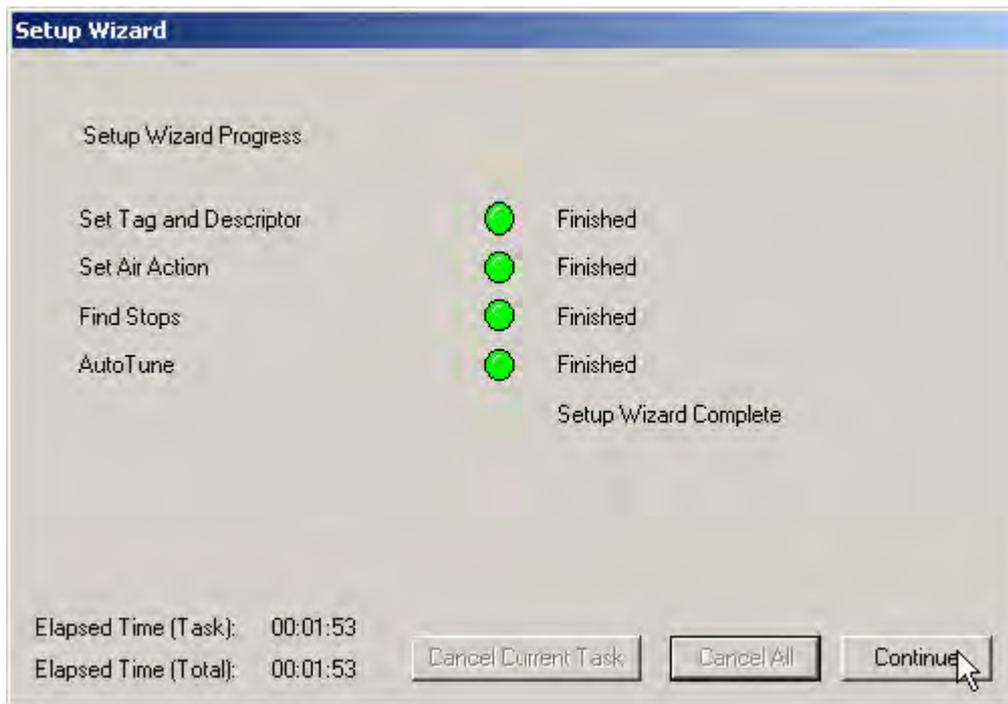

Figure 122 Setup Wizard Complete
- Click **Continue** and the Configure screen appears (Figure 122).